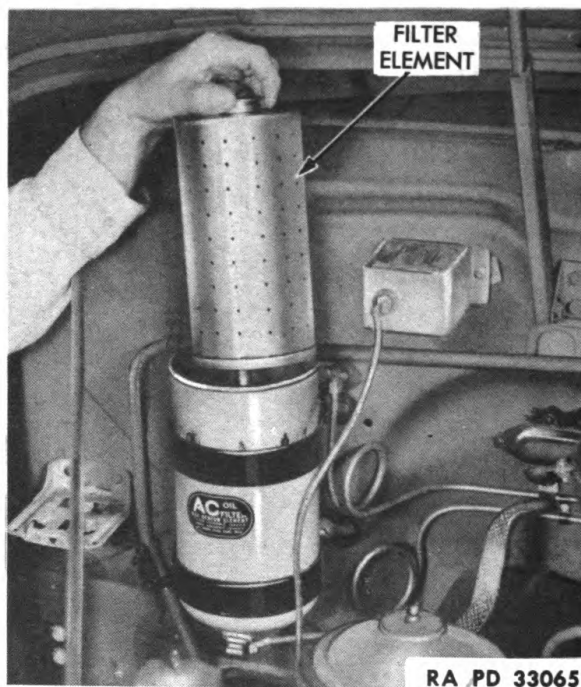

Figure 29—Oil Filter Element Replacement
b. Element Replacement (fig. 29). Remove drain plug and drain oil. Remove cover and gasket. Lift out the element. Clean the oil filter body and cover with a clean rag. Install drain plug. Place new element into position in the body, and install gasket and cover.